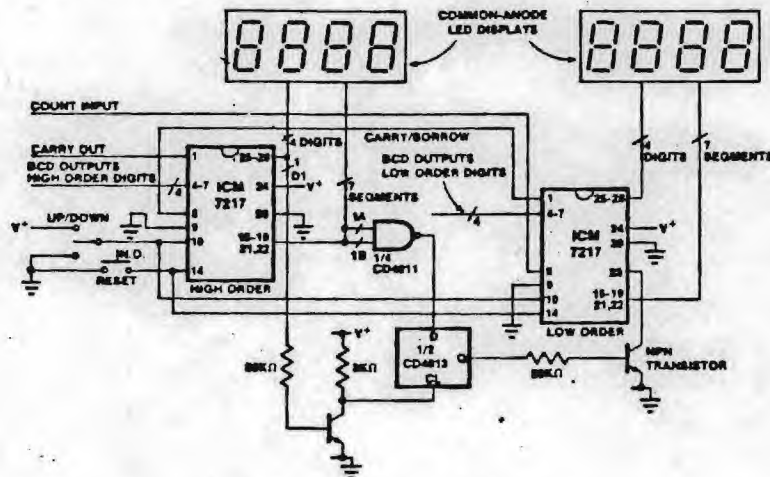

Figure 9: 8 Digit Up/Down Counter
To force the device to display leading zeroes after a fixed decimal point, use a bipolar transistor and base resistor in a configuration like that shown below with the resistor connected to the digit output driving the D.P. for left hand D.P. displays, and to the next least significant digit output for right hand D.P. display. See Figure 9 for a similarly operating multi-digit connection.
5. TAPE RECORDER POS CONTROLLER (Figure 9)
4. 8-DIGIT UP/DOWN COUNTER (Figure 9)